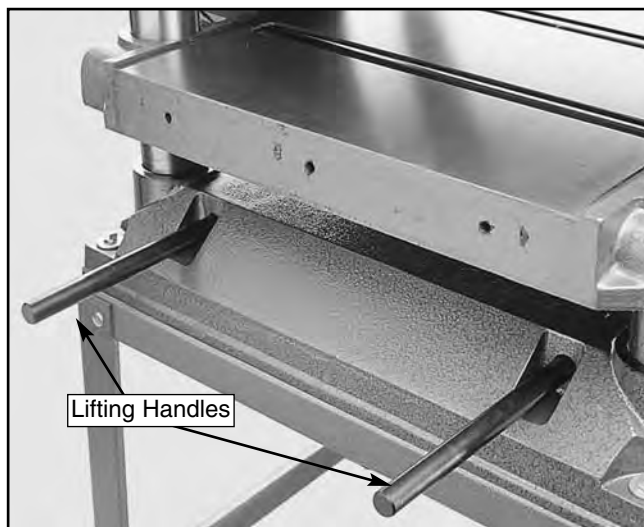

Figure 4. Location of lifting handles.
1. Using the lifting handles shown in **Figure 4**, place the planer on the stand and align the four holes in the base over the four mounting holes in the stand.